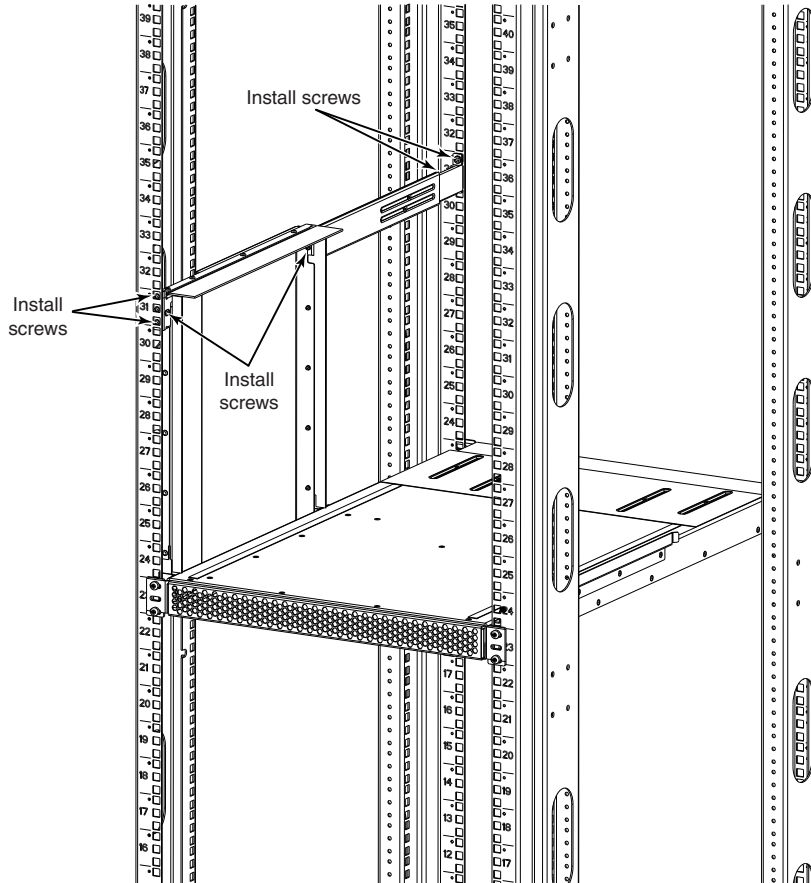

Figure 42 **Securing top rail in cabinet.**
5. Install the top-rail assembly (A in Figure 38 on page 195) to the air-duct assembly. Refer to Figure 42 on page 200.